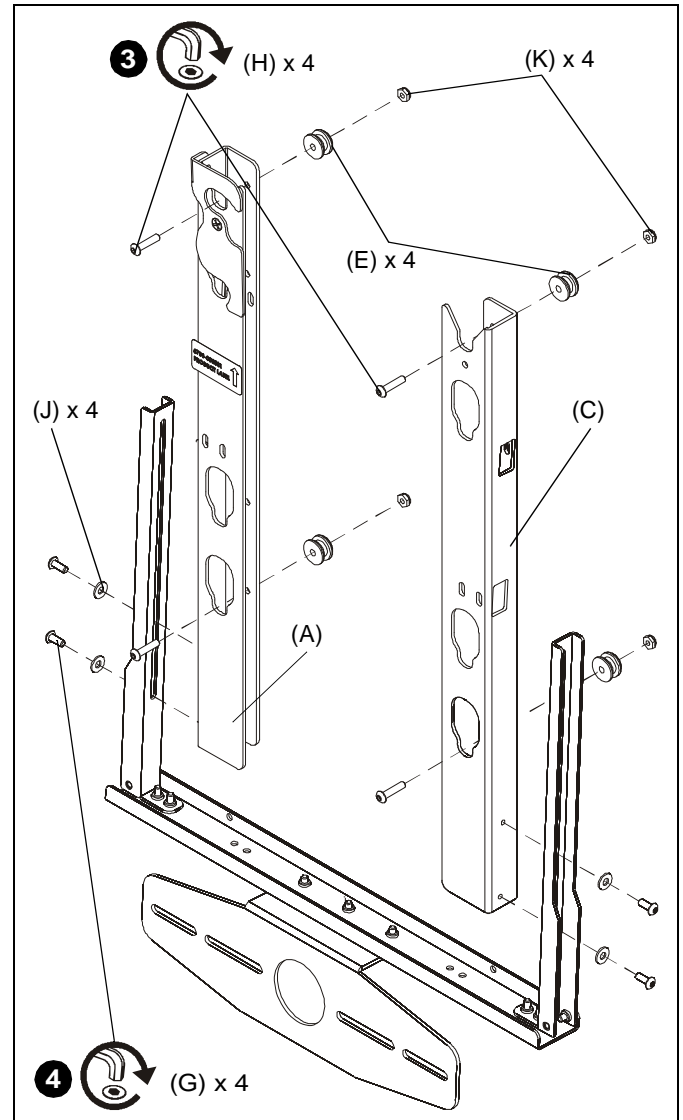

Figure 2
3. Install four mounting buttons (E) to uprights (A and C) using four #10-24 x 7/8" button head cap screws (H) and four 10-24 hex nuts (K). (See Figure 2)
4. Connect left and right uprights (A and C) to height adjust brackets (B) using four #10-24 x 1/2" button head cap screws (G) and four #10 washers (J). (See Figure 2)